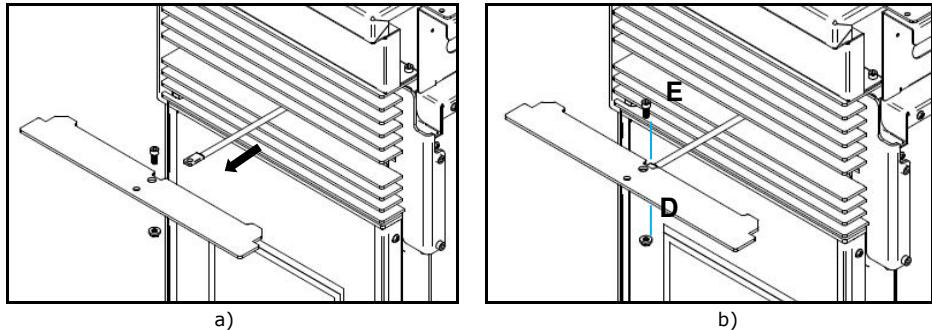

Figure 38 - Registry pad grip
f) Then, pull the registry bar forward (Figure 38-a), match the hole of the shaft and the hole of the blade and join them with a screw **E** (DIN 912 M6x14) or screw (ISO 3780 M8 X12). If using the first screw, use a nut **D** (Nuts M6 DIN 6923) as shown in Figure 38-b.